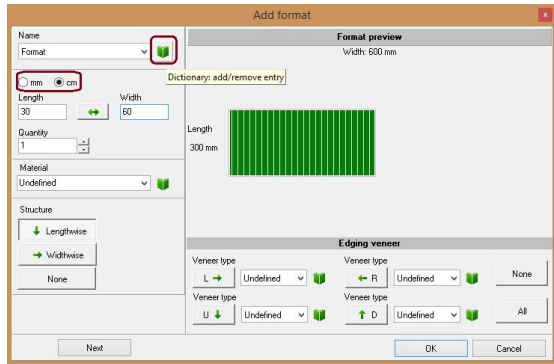

Fig. 52 – window for adding formats
- **dimensions** – width and length of the format in millimeters or centimeters (you can switch between the units – Fig. 52). Changing dimensions results in automatic change of the format preview in the right part of the window. Dimensions can be swapped by clicking the  button.